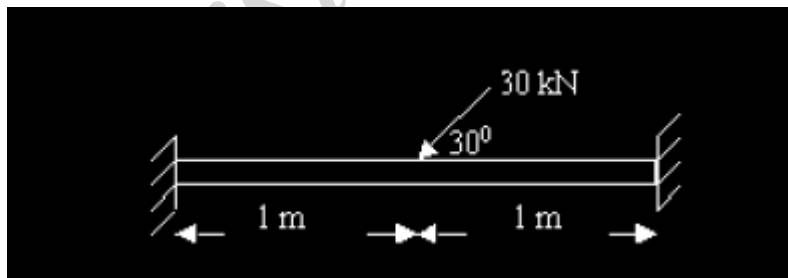

Fig1
3. Calculate the deflection at the center of the beam as shown in Fig1.